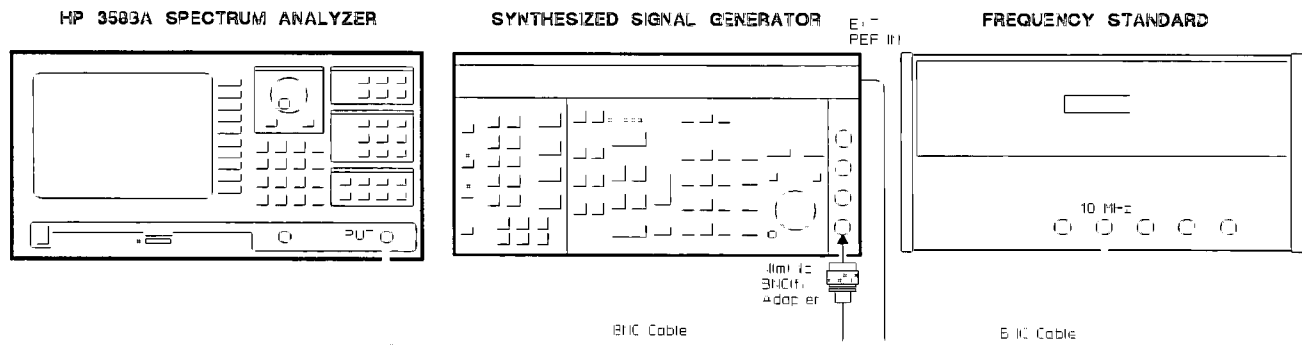

Figure 3-1. Frequency Accuracy Setup
1. Connect the test equipment as shown in figure 3-1.